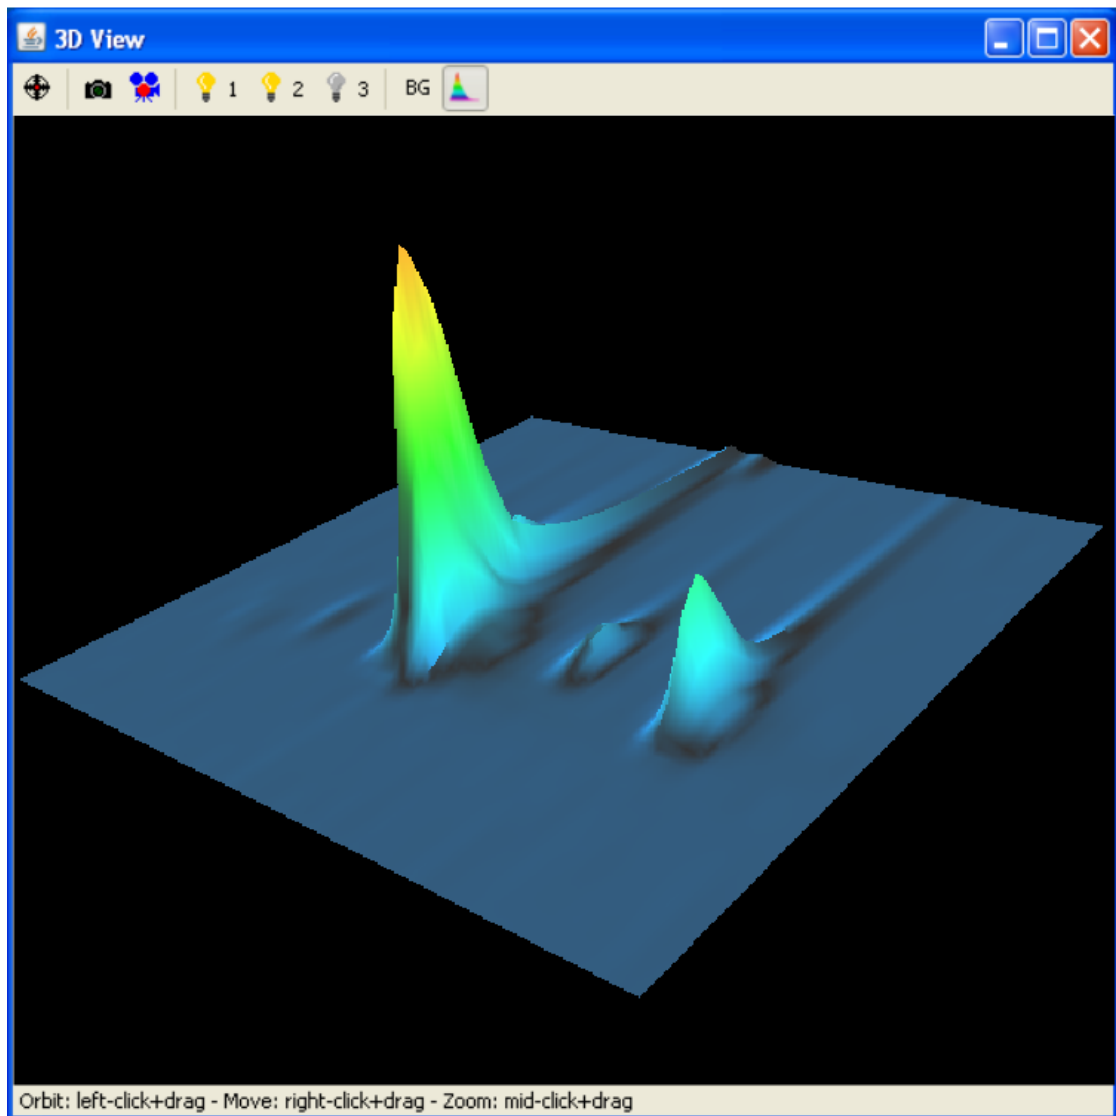

Figure 10.2: 3D View Window - Surface colorization
- Icon  *switches* On or Off the *colorization* of the surface depending on the *elevation*, that is the *intensity*. See Figure 10.2.